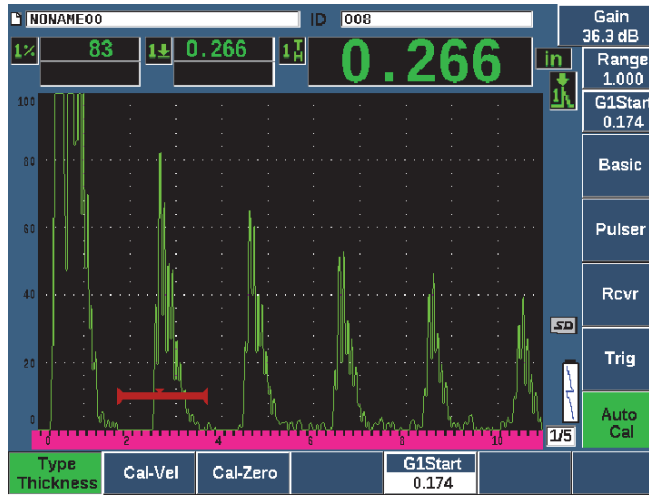

Figure 3-13 The Auto Cal menu
4. Choose the **Auto Cal** menu item (see Figure 3-13 on page 75).